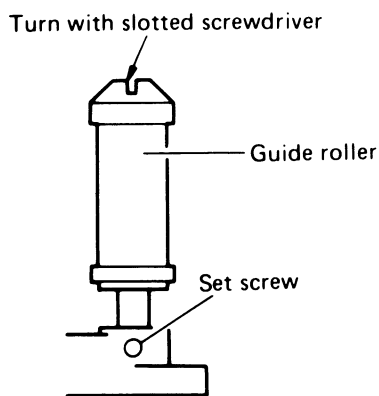

Fig. 12 Guide roller height adjustment
1. Slightly loosen setscrews of the supply and take-up guide rollers as shown in **Fig. 12**.